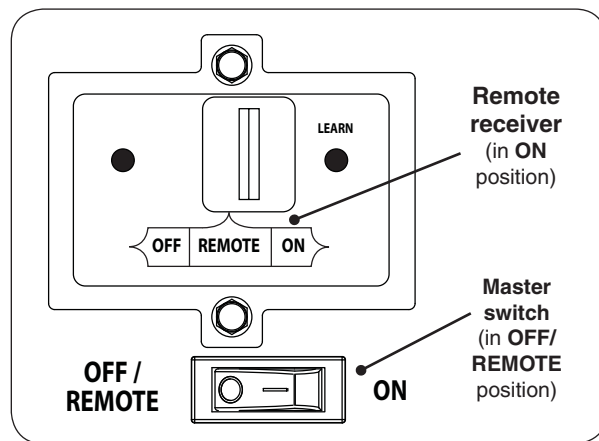

Fig. 43-1 Control panel detail
1. Ensure the master switch is in the **OFF/REMOTE** position (see Fig. 43-1).
3. Locate the 3-position switch on the remote receiver (see Fig. 43-1), and slide the switch to the **ON** position.
The master switch should remain in the **OFF/REMOTE** position to allow for remote system operation (see Fig. 43-1).